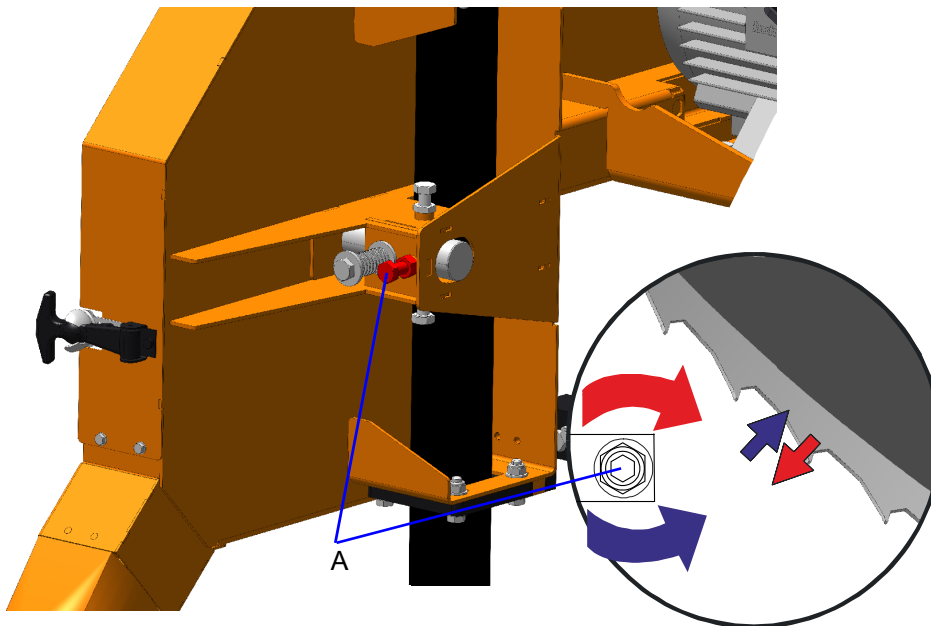

FIG. 3-5
See figure 3-5. Use the adjustment screw (A) shown below to adjust the drive-side blade wheel horizontally. First, loosen the nut on this screw. If you want to move the blade on the wheel away from the machine, loosen the screw. To move the blade towards the machine, tighten the screw. Be sure to tighten the nut after adjustment.